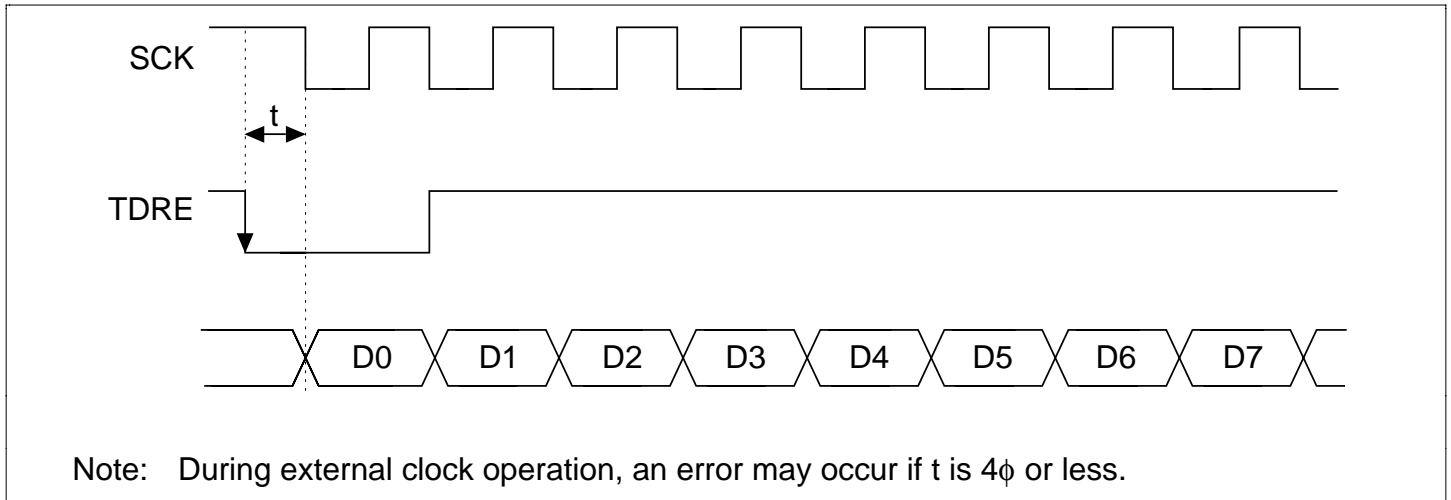

Figure 13.22 Example of Synchronous Transmitting with DMAC
- When using an external clock source for the serial clock, update TDR with the DMAC, and then input the transmit clock after the elapse of five system clocks or more. If a transmit clock is input in the first four system clocks after TDR is written, an error may occur (figure 13.22).
- Before reading the receive data register (RDR) with the DMAC, select the receive-data-full interrupt of the SCI as an activation source using the resource select bit (RS) in the channel control register (CHCR).